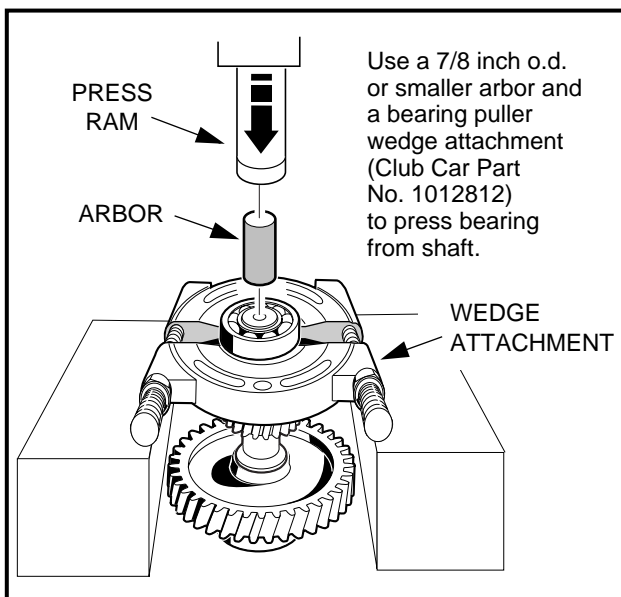

Figure 16-50 Remove Bearing
1. Place bearing puller wedge attachment (Club Car Part No. 1012812) between bearing (38) and shaft/gear (56) **(Figure 16-42, Page 16-18)**, then press bearing off shaft **(Figure 16-50, Page 16-22)**. See following CAUTION.